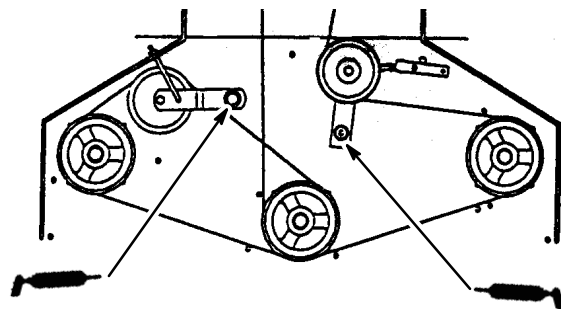

Figure 38
3. Lubricate the blade belt idler arm pivots and blade spindles (Fig. 38).